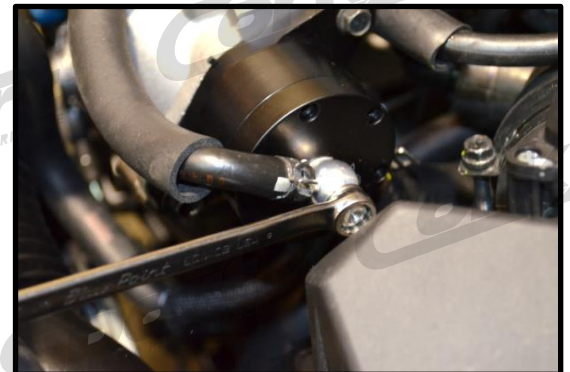

Figure 2c
- d) Re attach the vacuum signal line to the vacuum banjo fitting on the CorkSport Bypass Valve (Figure 2c).